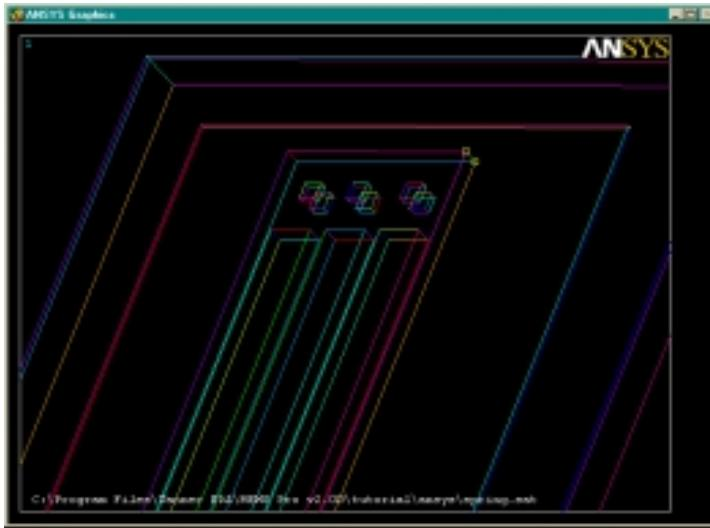

Figure 110: Selecting two keypoints on the spring
- Using the same technique as above, select the two keypoints on the upper right end of the spring. These should be numbers **41** and **42**. Refer to Figure 110 to check if you have selected the appropriate keypoints.